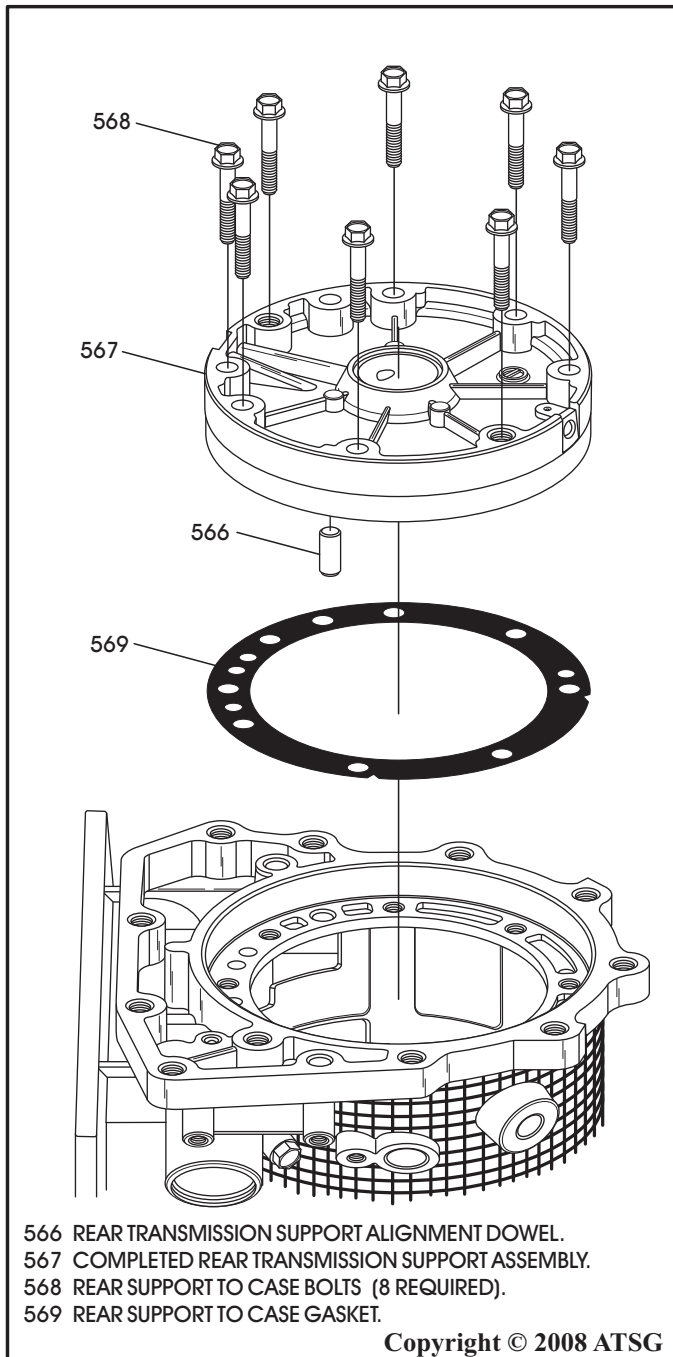

Figure 179
1. Install a new rear support to case gasket, as shown in Figure 179.
2. Install 4 speed output shaft support, as shown in Figure 179.
3. Install the eight rear support retaining bolts, as shown in Figure 179.